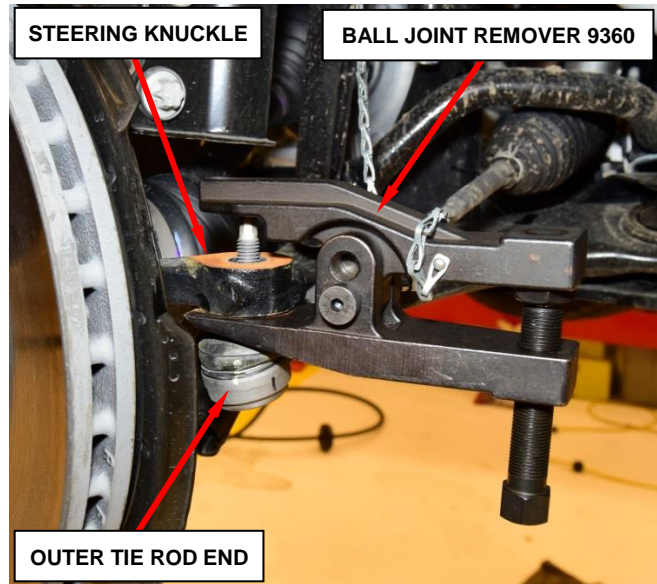

Figure 5 – Disconnect Tie Rod From Knuckle
- Using Ball Joint Remover 9360, separate the outer tie rod end from the steering knuckle (Figure 5).